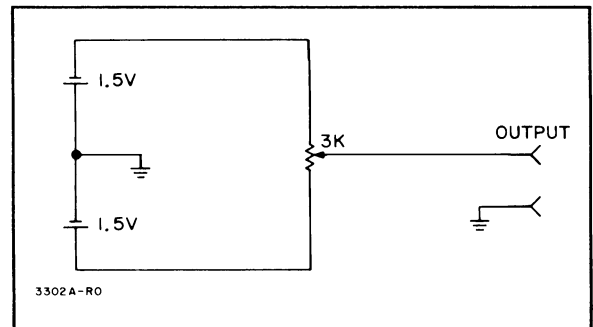

Figure 5-3. 0 - ±1500 MV Power Supply
- a. Test equipment required: Dc voltmeter, 0 - ±1500 mv dc power supply (see Figure 5-3 for construction) and an oscilloscope.